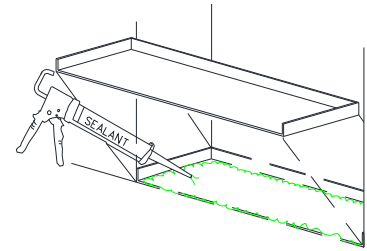

Figure 9:
- Secure the sill pan to the floor with glue. Position sill pan as necessary to allow for proper installation of frame assembly (Figure 9).